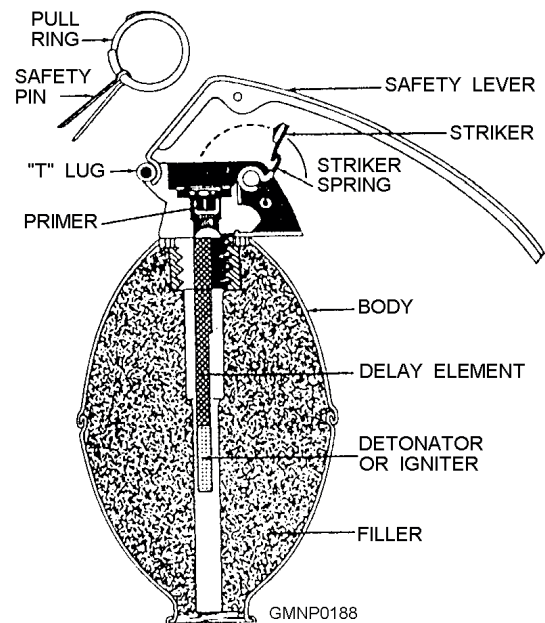

Figure 3-107.—Functioning of the fuze.
- Delay fuzes are used in all standard hand grenades. Detonation of the grenade is not on impact but after the delay element in the fuze has burned. The fuze assembly (fig. 3-107) consists of a fuze body, safety lever, safety pin, striker spring, primer, delay element, and detonator or igniter. For further information about the operation of the fuze assembly, refer to FM 23-30. All casualty-producing grenades (fragmentation, offensive, and white phosphorus) have a 4- to 5-second delay. Because of this short delay, personnel must stay alert when arming and throwing hand grenades.